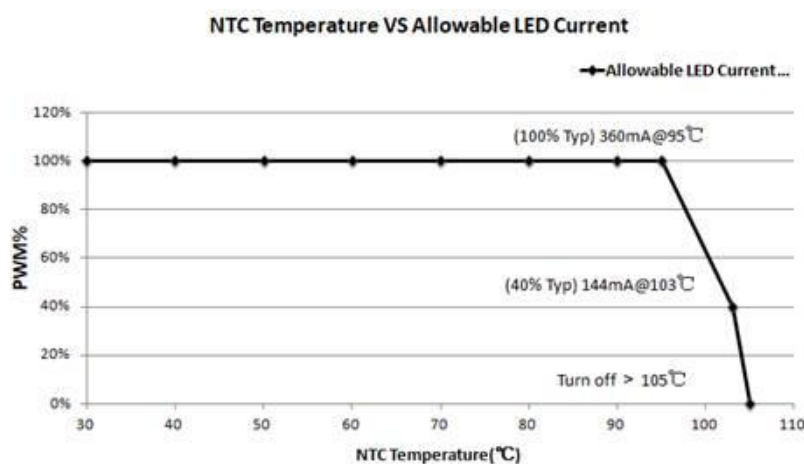

Figure 18 Backlight Current De-rating Curve
Note (7) LED forward current should follow the current of LED vary with environmental temperature. (Figure 18 Backlight De-rating Curve)